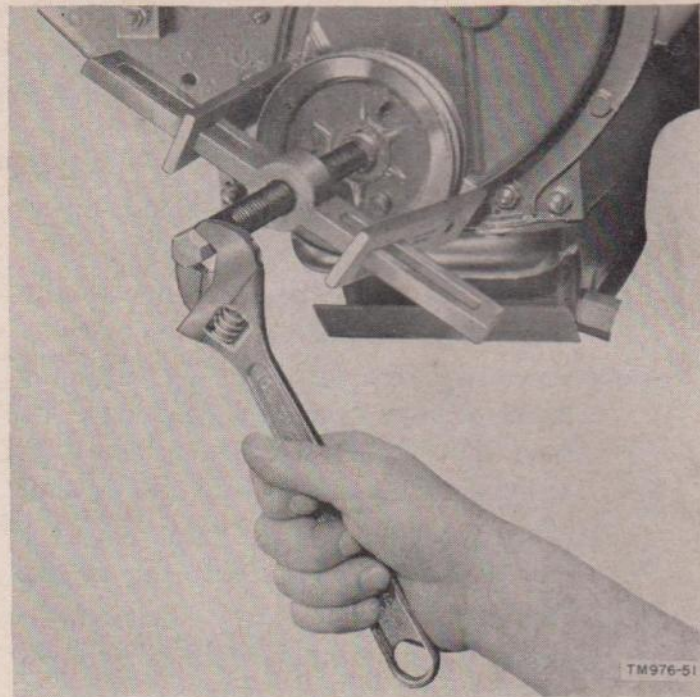

Figure 51. Removing crankshaft pulley.
- (1) Remove the crank ratchet (47) from the crankshaft. Remove the crankshaft pulley (48) with a puller as shown in figure 51. Remove the key (60).
- (2) Remove the nuts, bolts, and lock washers that are used to secure the gear cover (49) to the engine. Remove the gasket (50). Then pull the oil seal (51) out of the gear cover.
- (3) Slip the oil slinger (61) and the crankshaft gear spacer (62) off the crankshaft (67).
- (4) Wash all parts in fuel (D-40 or D-35) or cleaning solvent.
- (5) Examine the gear cover for cracks.
- (6) Examine the oil seal for evidence of leakage, nicks, and burrs.